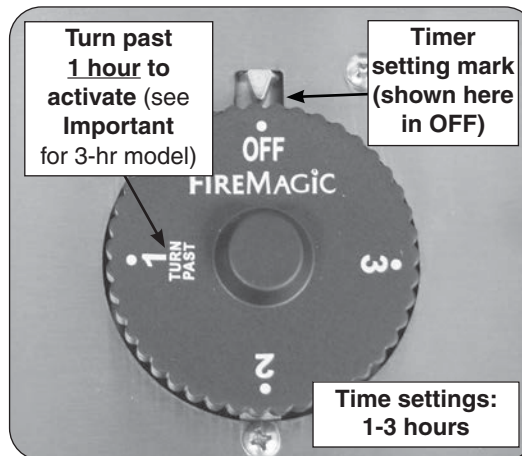

Fig. 2-4 3-Hour timer operation
**Important:** When using the timer for periods of less than one hour, you must first turn the dial past 1 hour (to activate), then return (counter-clockwise) to the desired amount of time. This will ensure proper timer operation. See Fig. 2-4.